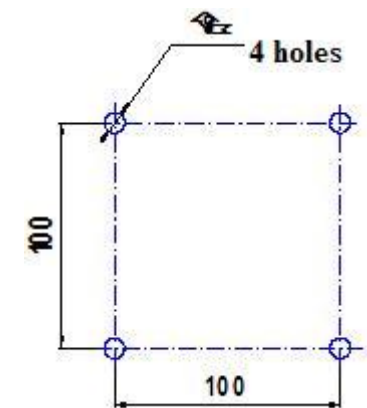

Figure 4
6.6 The configuration of powder spraying and the area image, where smothering is achieved, are given in Figure 4 and in Table 2.